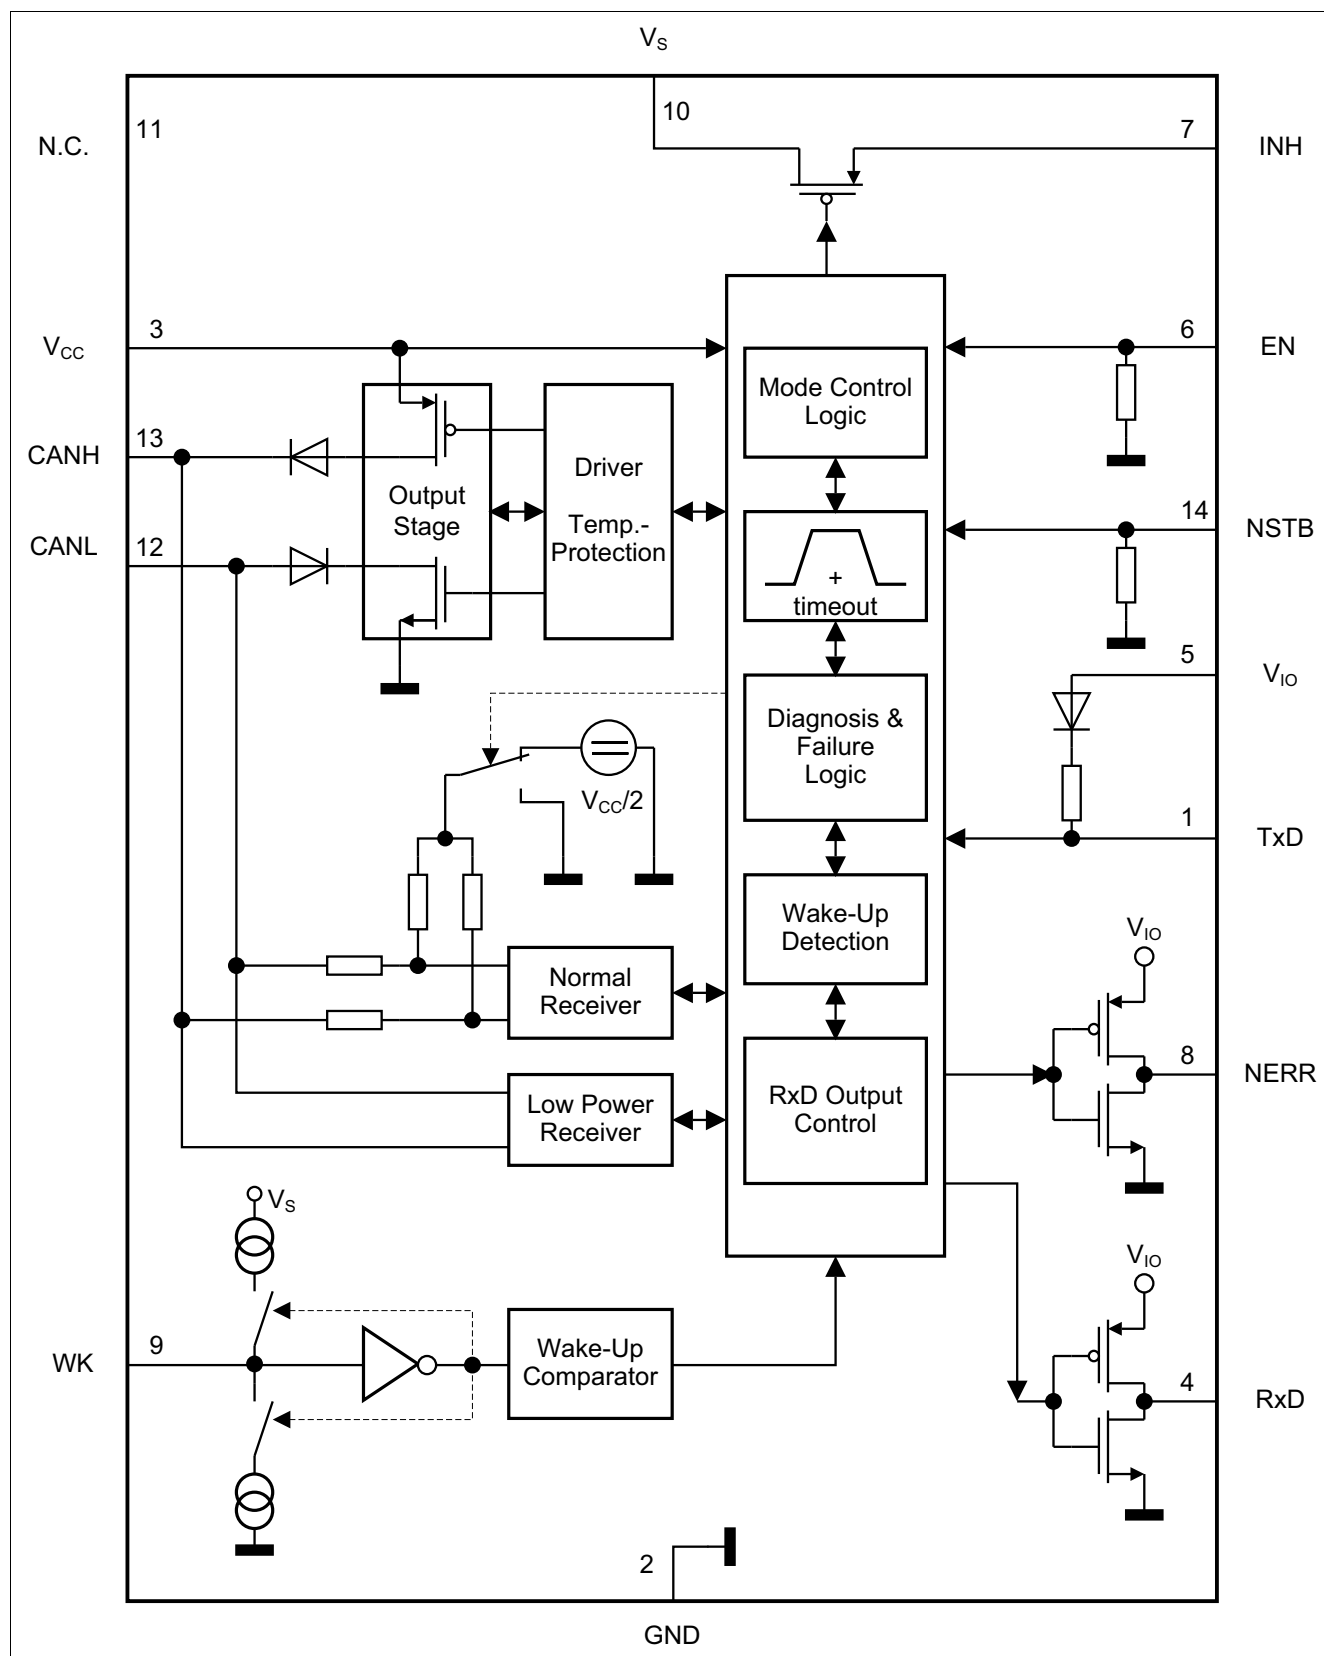
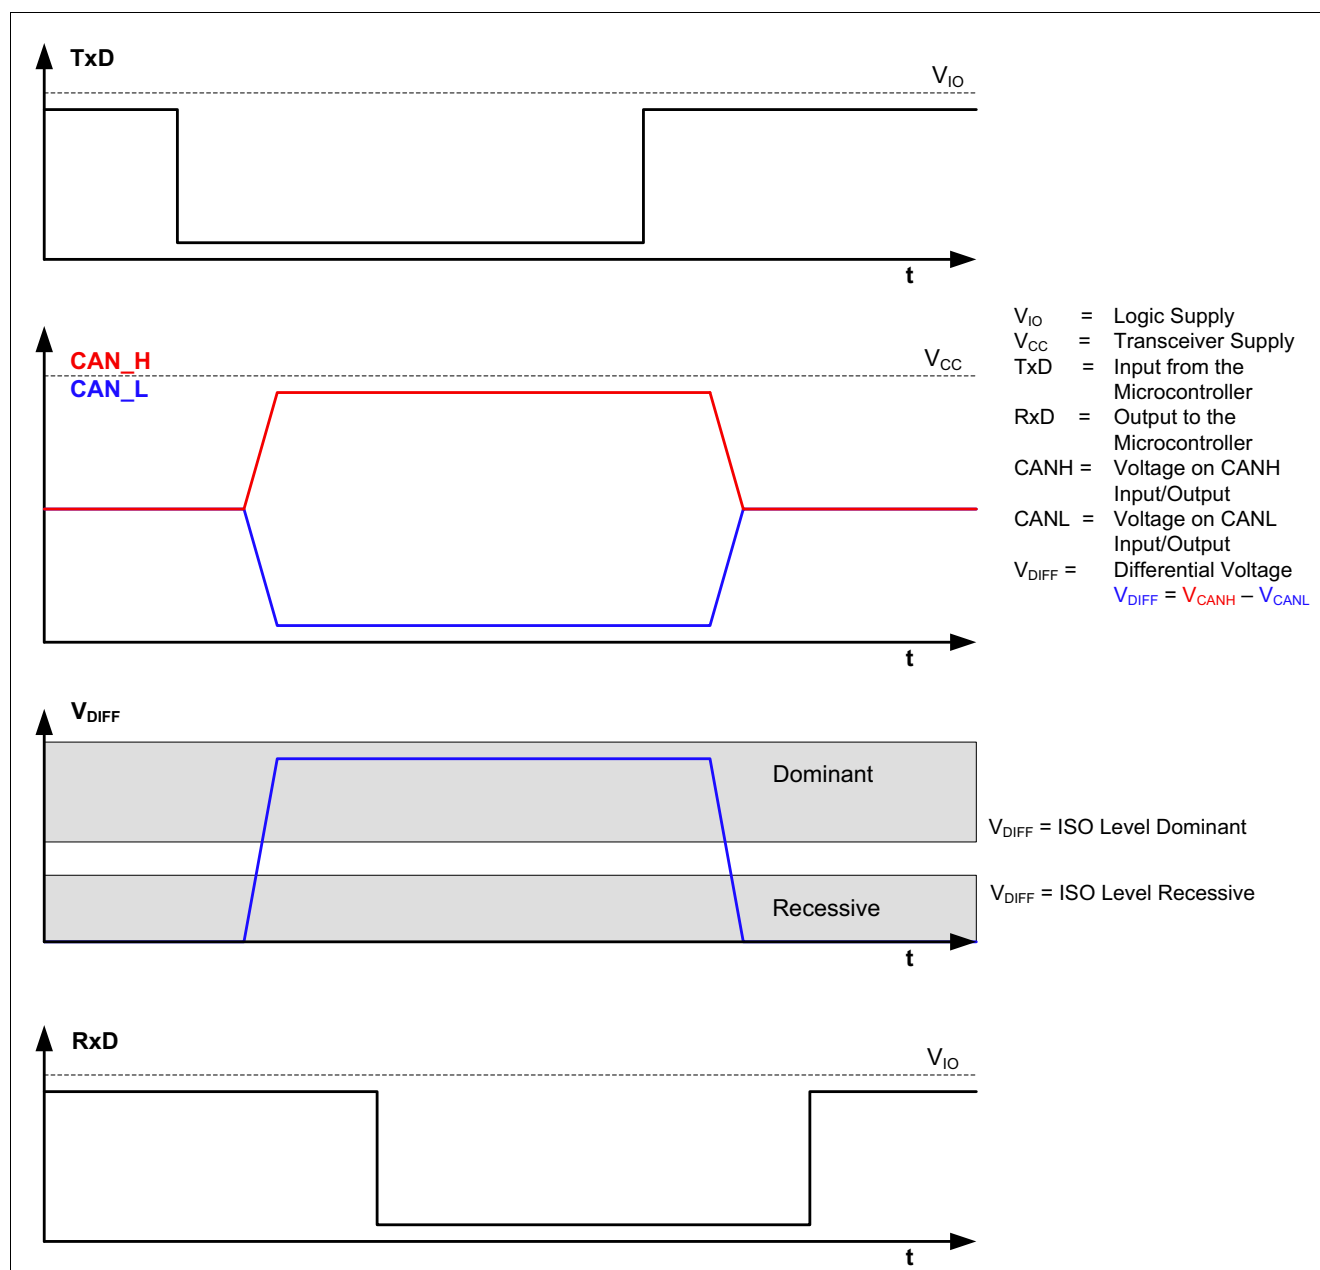

Figure 1 Block Diagram
Figure 3 High Speed CAN Bus Signals and Logic Signals
The TLE6251-3G is a High Speed CAN transceiver, operating as an interface between the CAN controller and the physical bus medium. A **H**igh **S**peed CAN network (abbreviated HS CAN) is a two wire differential network which allows data transmission rates up to 1 MBaud. Characteristic for a HS CAN network are the two CAN bus states "Dominant" and "Recessive" (see Figure 3).
The input TxD and the output RxD are connected to the microcontroller of the ECU. As shown in Figure 1, the HS CAN transceiver TLE6251-3G has a receive unit and a output stage, allowing the transceiver to send data to the bus medium and monitor the data from the bus medium at the same time. The HS CAN TLE6251-3G converts the serial data stream available on the transmit data input TxD into a differential output signal on CAN bus. The differential output signal is provided by the pins CANH and CANL. The receiver stage of the TLE6251-3G monitors the data on the CAN bus and converts them to a serial data stream on the RxD pin. A logical "Low" signal on the TxD pin creates a "Dominant" signal on the CAN bus, followed by a logical "Low" signal on the RxD pin (see Figure 3). The feature, broadcasting data to the CAN bus and listening to the data traffic on the CAN bus simultaneous is essential to support the bit to bit arbitration on CAN networks.
- Through the internal resistors R_I (see Figure 1), the pins CANH and CANL are connected to GND.